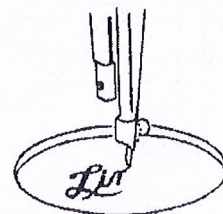

Figure 26
(2) Remove the presser foot, needle plate, inner cover, thrust plate and material-feeding tooth. After that, the embroidering plate is put into use;
(3) Hold firmly the end of the surface stitches with your left hand, turn the belt pulley manually toward the operator, and then makes the bottom stitches pull out from the holes of the needle plate;
(4) Make sure to stretch tightly the material between the internal and external embroidering frame. Otherwise, skipping, stitches-breaking or material creased might be found (see Figure 26).